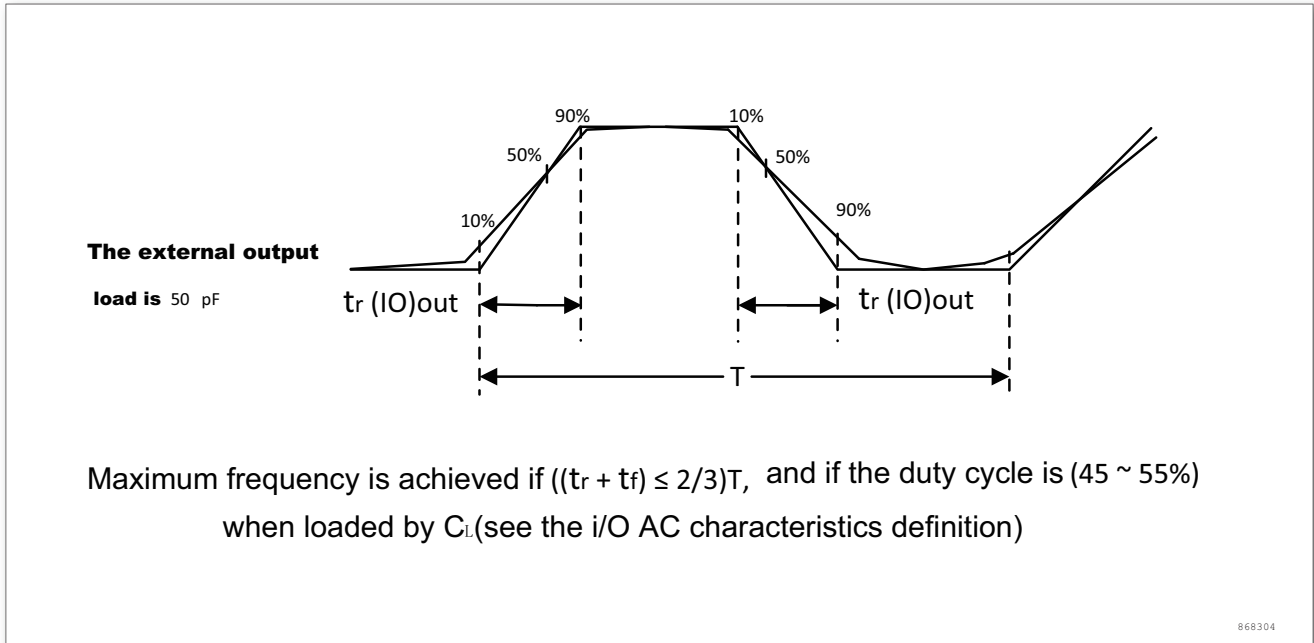

Figure 16. I/O AC characteristics
The definitions and values of the input and output AC characteristics are given in figure 16 and Table 31, respectively.
2. The maximum frequency is defined in figure 16.